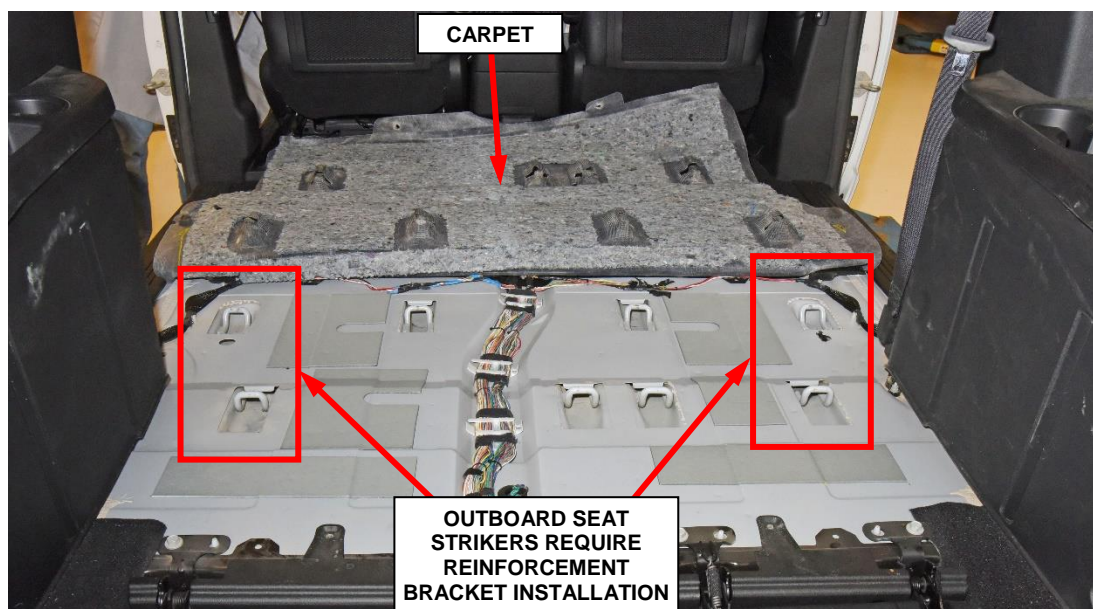

Figure 14 – Carpet
49. Fold the carpet forward out of the way exposing the seat strikers. Stop folding the carpet at the 2nd row stow-n-go trim ring. Do not remove the carpet from the stow-n-go trim rings or from the vehicle (Figure 14).